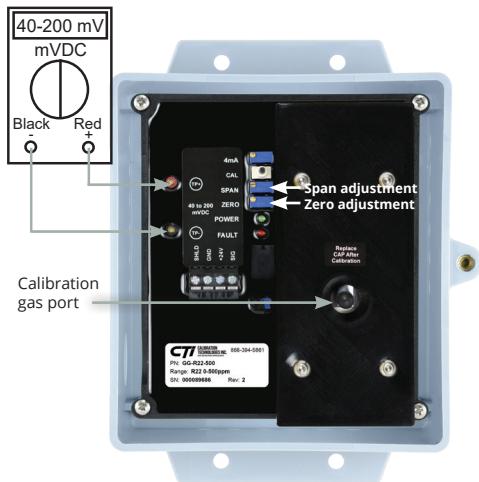

Figure 2: Sensor board components and zero/span adjustment
- Adjust the zero pot until the sensor outputs 40 mVDC from test points [-] to [+] (see Figure 2).
- Connect tubing to the calibration port of the infrared tube. (see Figure 2)